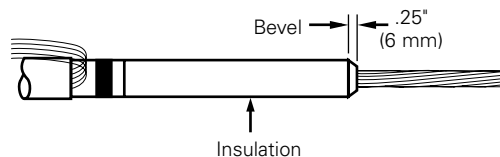

Figure 18. Line illustration of insulation bevel.
- Remove sharp edge of insulation by beveling at a 45° angle for approximately .25" (6 mm). (Refer to Figure 18.)